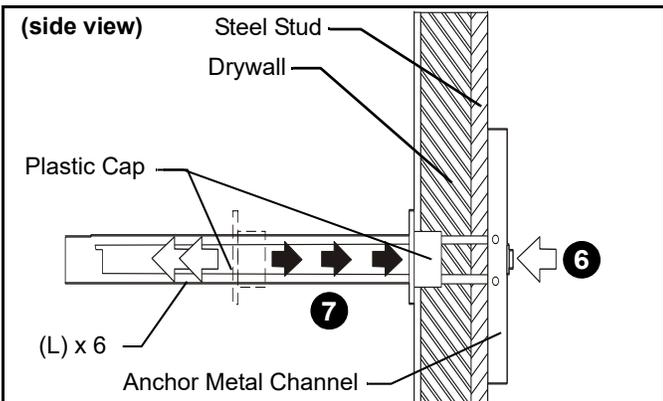

Figure 9
6. Holding plastic straps on anchor (L), pull anchor away from wall until channel rests flush behind wall making sure anchor channel is positioned vertically on stud. (See Figure 9)
7. Slide plastic cap on anchor (L) towards wall until flange of cap is flush with wall. (See Figure 9)